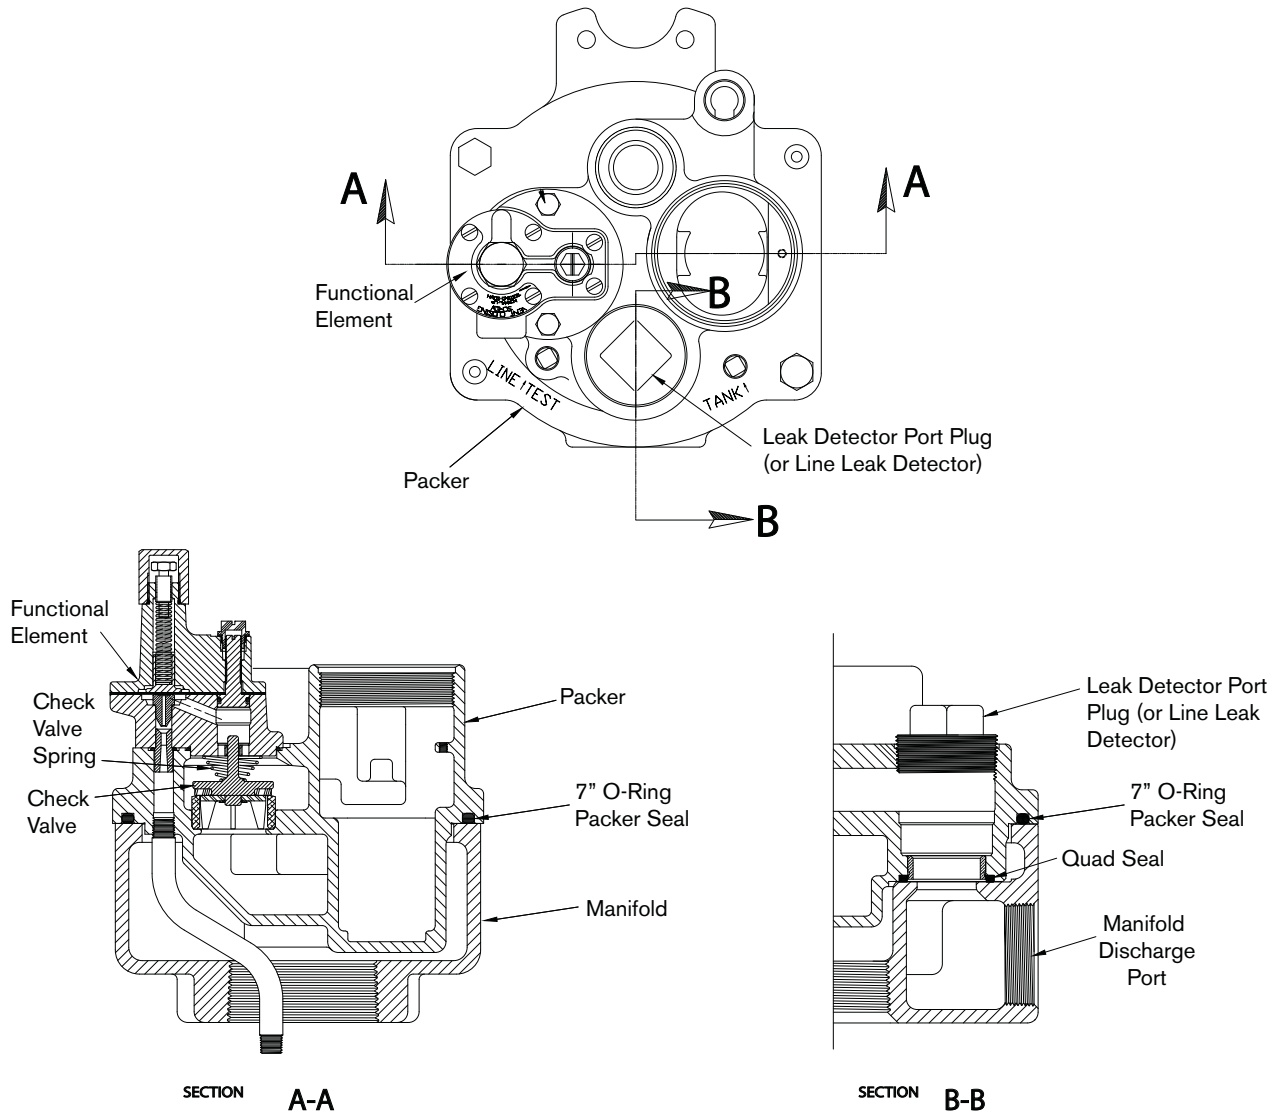

Figure 33. Locating 7" Packer O-Ring And Quad Seal
8. Once the pump is lifted off of the manifold, remove the old quad seal from the base of the packer (under the line leak port (see Figure 33).
11. Lubricate the 7" packer o-ring with petroleum jelly and install it in the groove in the packer (see Figure 33).